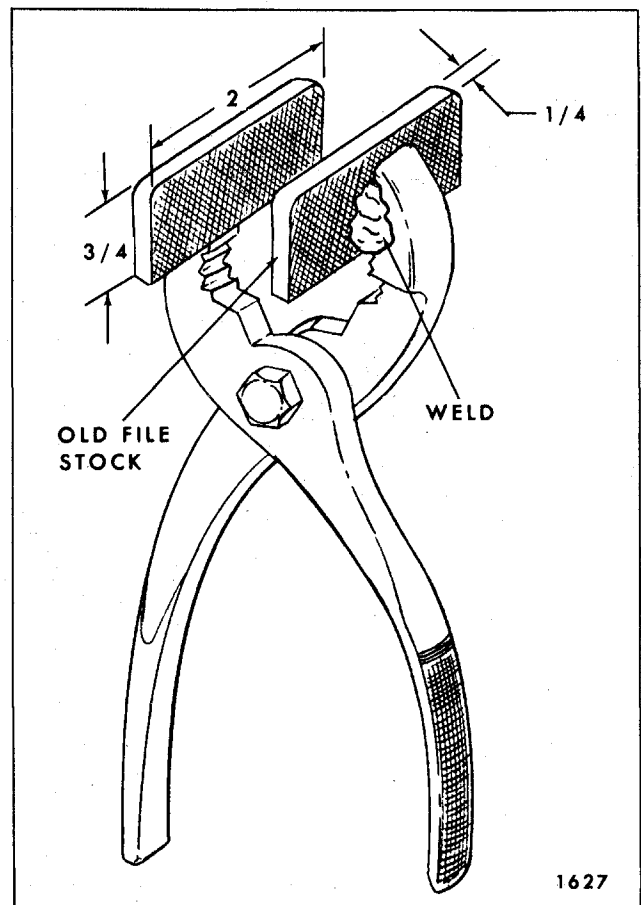

Fig. 8-34-Fabric Roof Cover Pliers
1. Where possible, install new cover at room temperature (approximately 72 degrees) to permit easier fitting and removing of wrinkles from new cover assembly. Fabric roof cover pliers (Fig. 8-34) will aid in removing wrinkles.